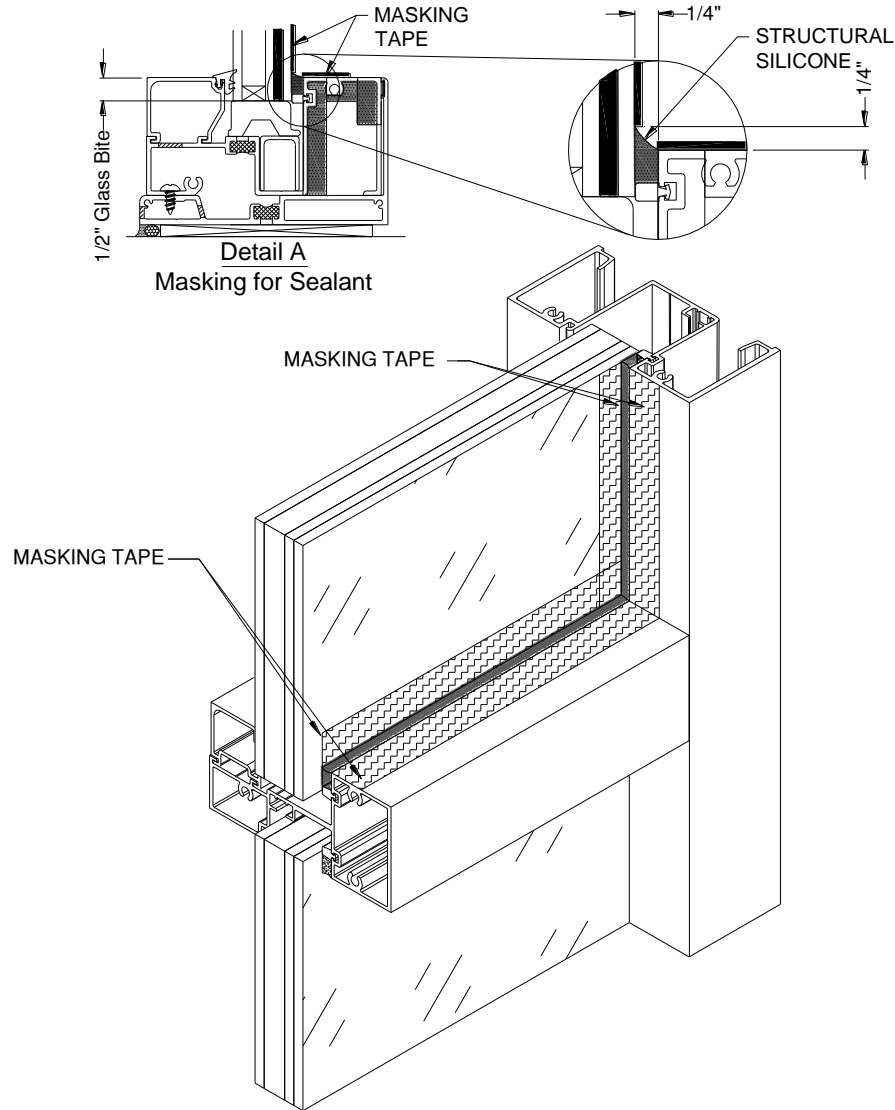

Figure 27: Interior Sealant Application
16.3.1 Mask off glass and aluminum with 1" wide (minimum) low adhesion masking tape. Reference *Figure 27* for masking tape application location. Working a single D.L.O. at a time, fill cavity around full perimeter of D.L.O. with Structural Silicone Sealant, as shown in *Figure 27, Detail A*; care should be taken not to leave any voids and eliminate air bubbles in sealant. Immediately tool, creating a finished joint with a beveled/curved joint surface, similar to shown in *Figure 27, Detail A*.